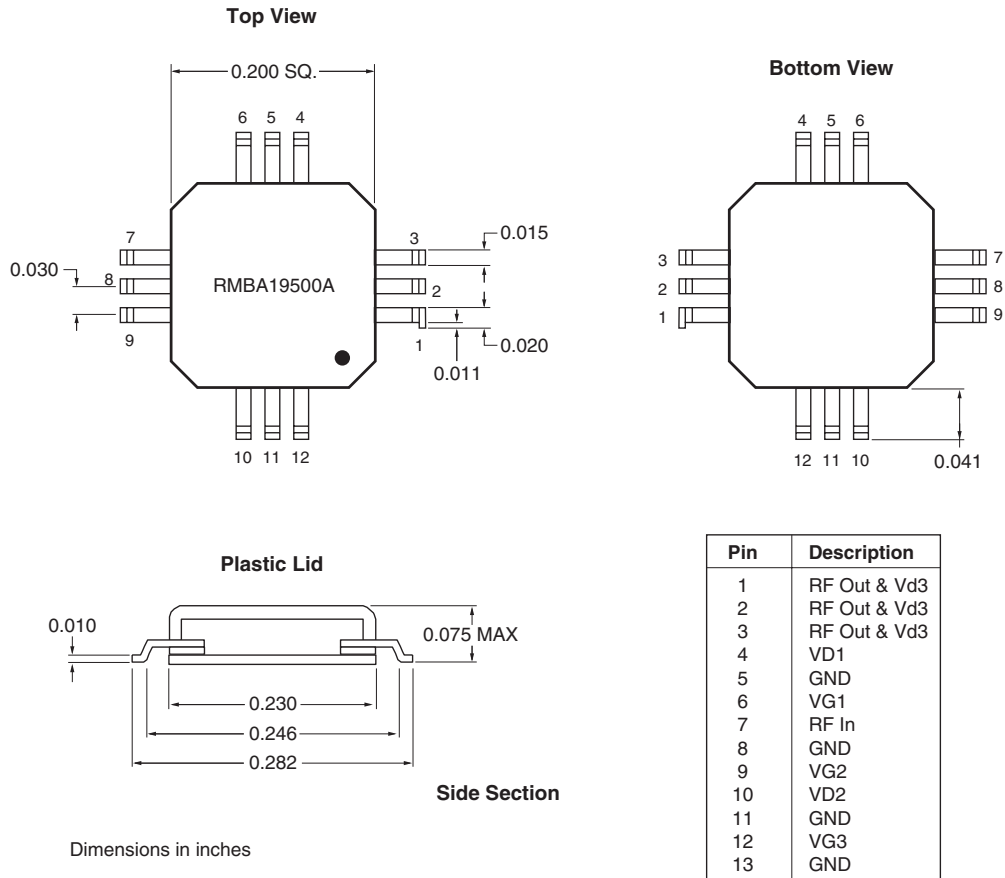
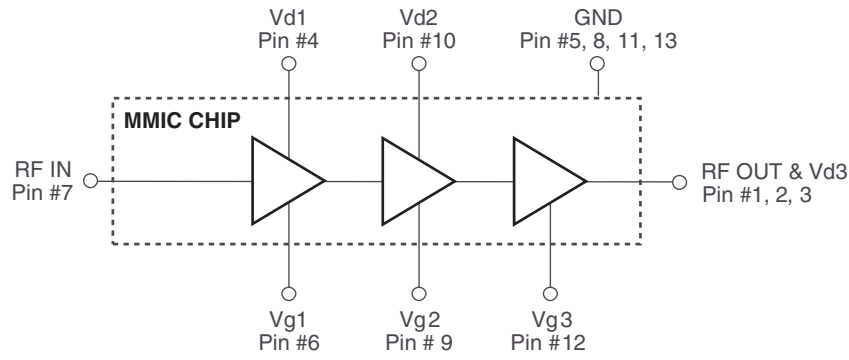
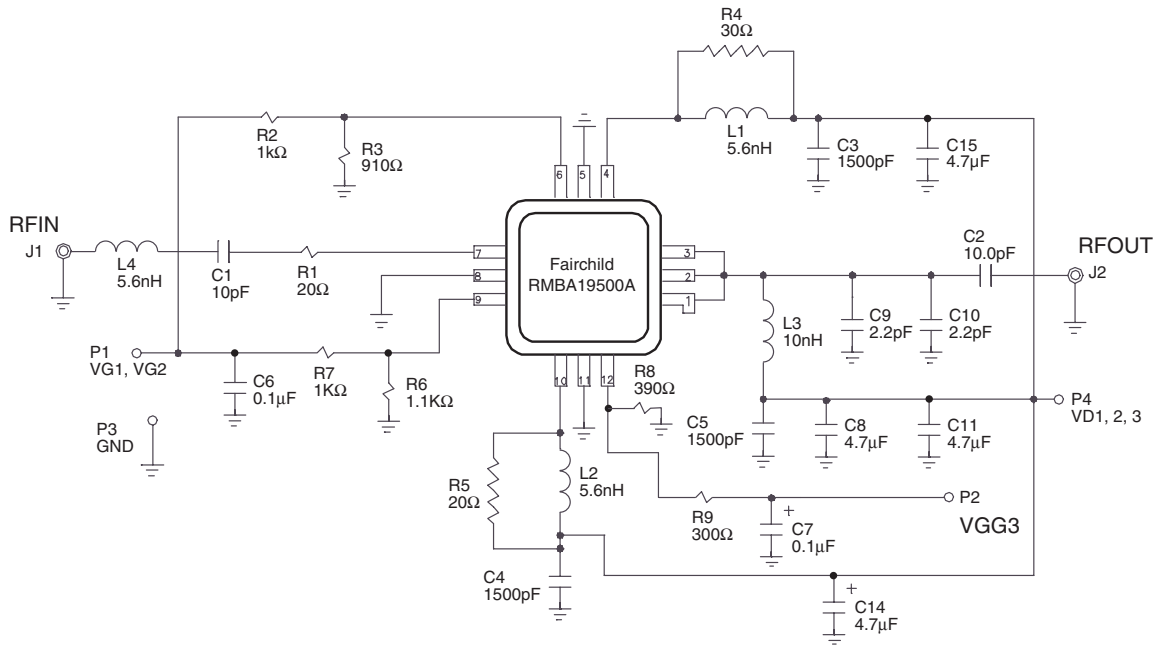
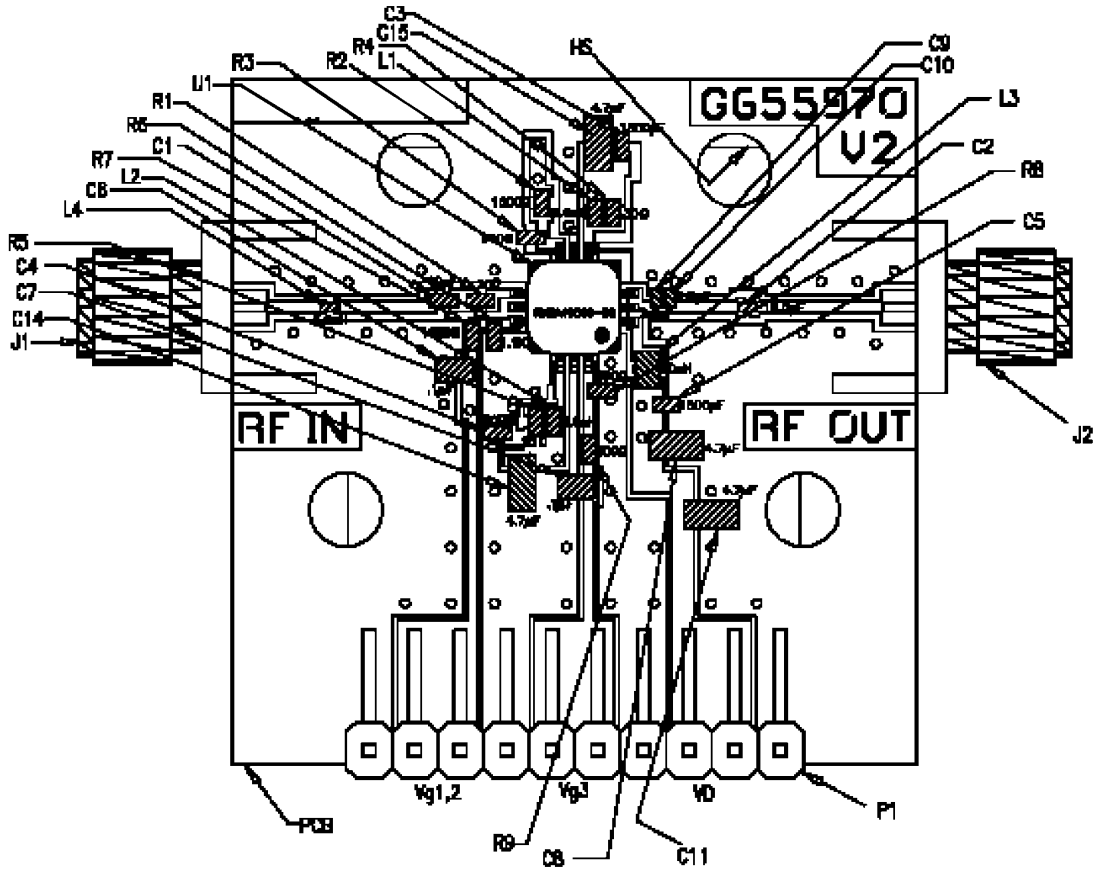

Figure 1. Package Outline and Pin Designations
Figure 2. Functional Block Diagram
Figure 3. Schematic of Application Circuit Showing External Components
Figure 4. Layout of Test Evaluation Board (RMBA19500A-TB, G655971)
The device requires external input and output matching to 50Ω as shown in Figure 3 and the Parts List.
The following describes a procedure for evaluating the RMBA19500A, a monolithic high efficiency power amplifier, in a surface mount package, designed for use as a driver stage for PCS1900 Base station or as the final output stage for Micro- and Pico-Cell base stations. Figure 1 shows the package outline and the pin designations. Figure 2 shows the functional block diagram of the packaged product. The RMBA19500A requires external passive components for DC bias and RF input and output matching circuits as shown in Figure 3 and the Parts List. A recommended schematic circuit is shown in Figure 3. The gate biases for the three stages of the amplifier may be set by simple resistive voltage dividers. Figure 4 shows a typical layout of an evaluation board, corresponding to the schematic circuits of Figure 3. The following designations should be noted:
- (1) Pin designations are as shown in Figure 2.
- (2) Vg1, Vg2, and Vg3 are the Gate Voltages (negative) applied at the pins of the package.
- (3) Vgg1, 2, and Vgg3 are the negative supply voltages at the evaluation board terminals (Vg1 and Vg2 are tied together).
- (4) Vd1, Vd2, and Vd3 are the Drain Voltages (positive) applied at the pins of the package.
- (5) Vdd is the positive supply voltage at the evaluation board terminal (Vd1, Vd2, and Vd3 are tied together).